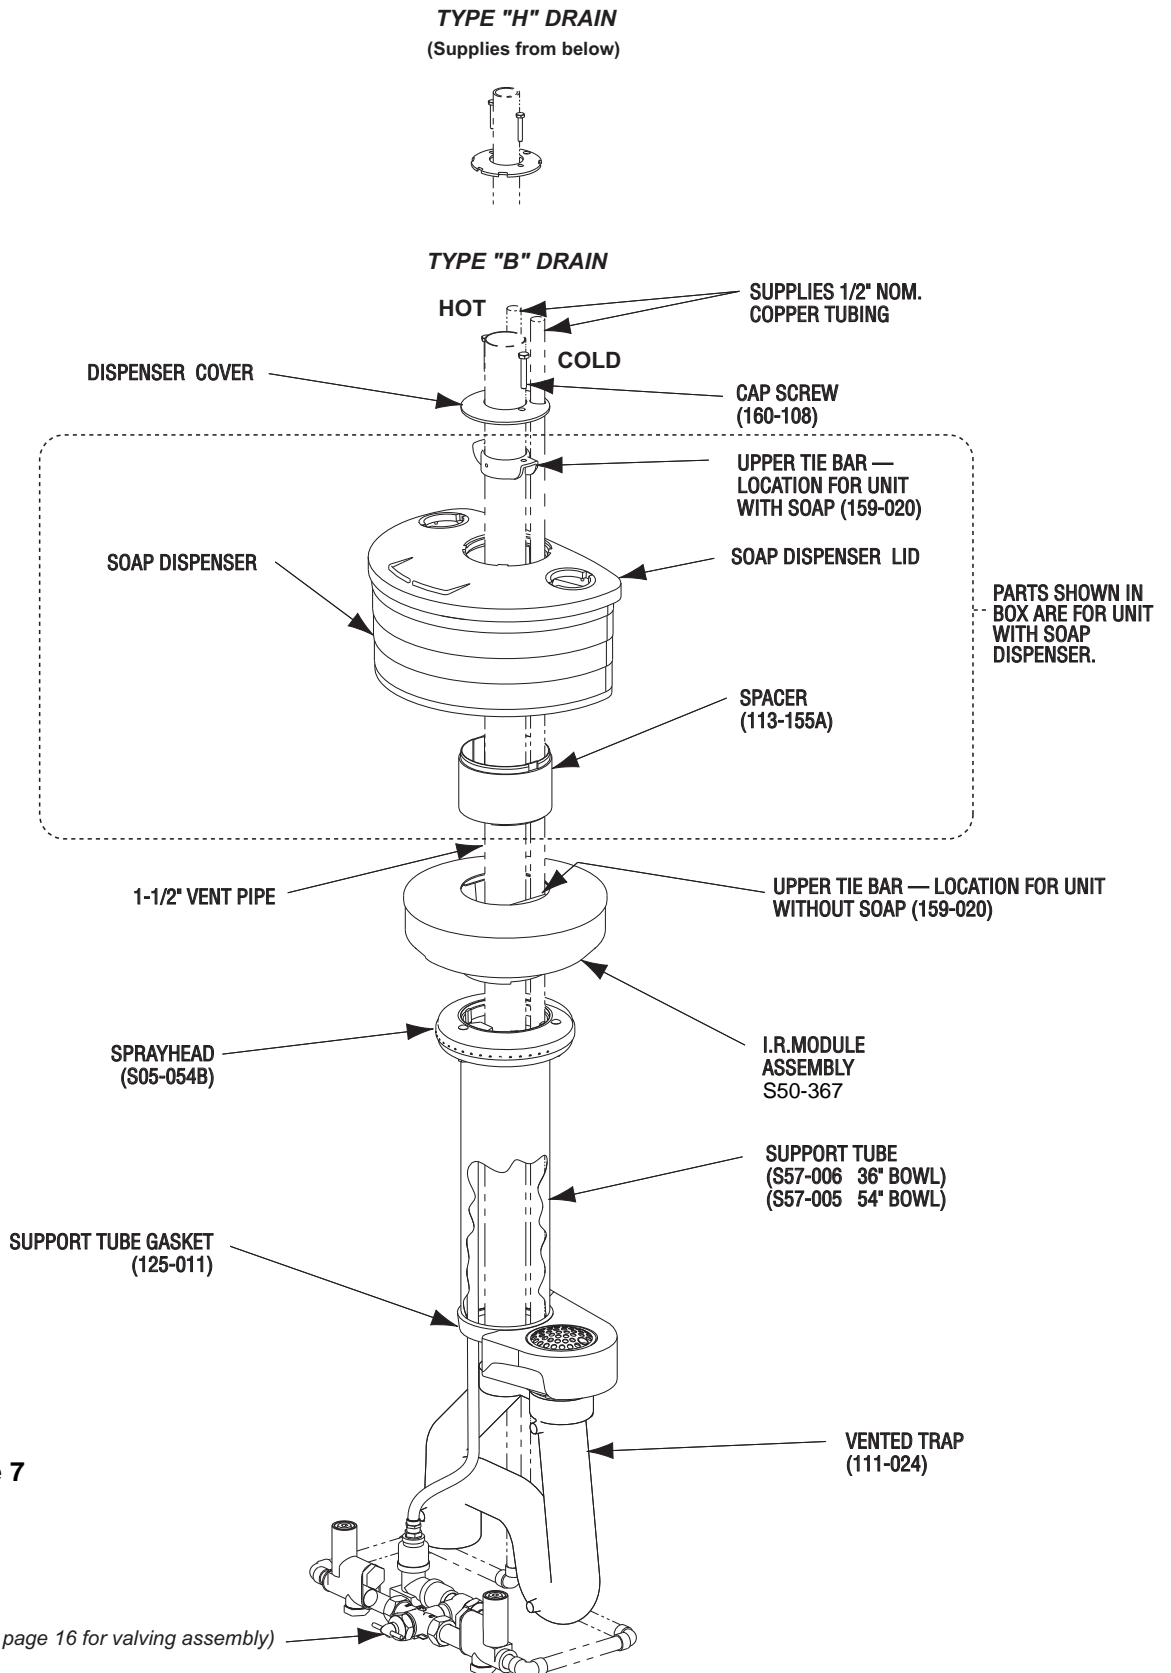

Figure 7
1. Install hemmed end (not sharp end) of support tube (welded seam toward wall) with gasket onto bowl as shown in Figure 7.
3. Place sprayhead with 1/2" tubing onto support tube as shown in Figure 7. Run tubing down through support tube. *Make sure spray holes point away from the wall.*
- 8a. **FOR UNITS WITH SOAP OPTION:** Place the spacer, soap dispenser and cover in position on top of I.R. module (see Figure 7). Slide tie bar over 1-1/2" vent pipe 1/2" below top of soap dispenser lid and secure with set screws (tie bar must be parallel to wall). Slide the dispenser cover over 1-1/2" vent pipe and secure with 2 screws included with tie bar.